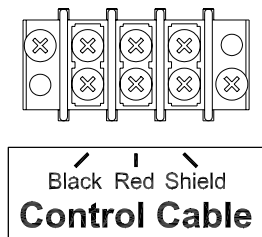

Figure 10 Control Cable Wiring Diagram
7. Connect the cable to the terminal block labeled **Control Cable** on the softball / baseball scoreboard junction chassis according to figure 10.